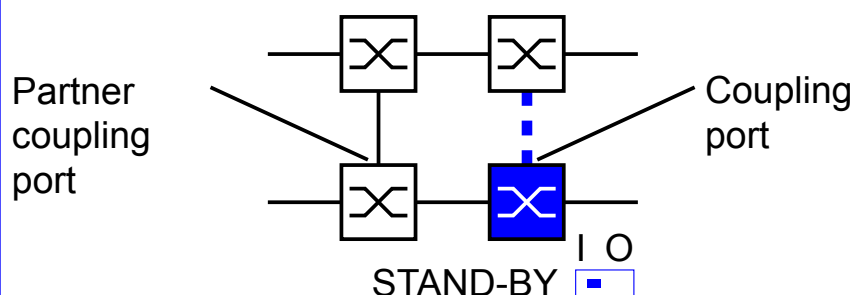

Figure 16: Two-Switch coupling
- ☐ Select two-Switch redundant coupling (see fig. 16).